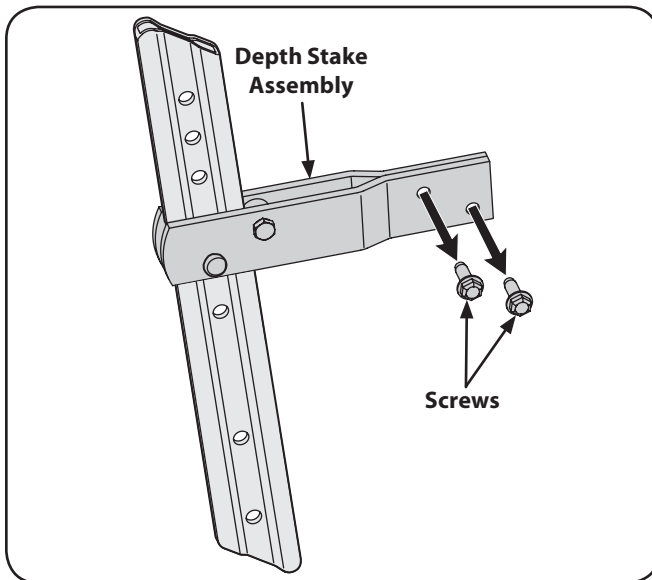

Figure 1-5
1. Remove the two screws from the depth stake assembly. See Figure 1-5.